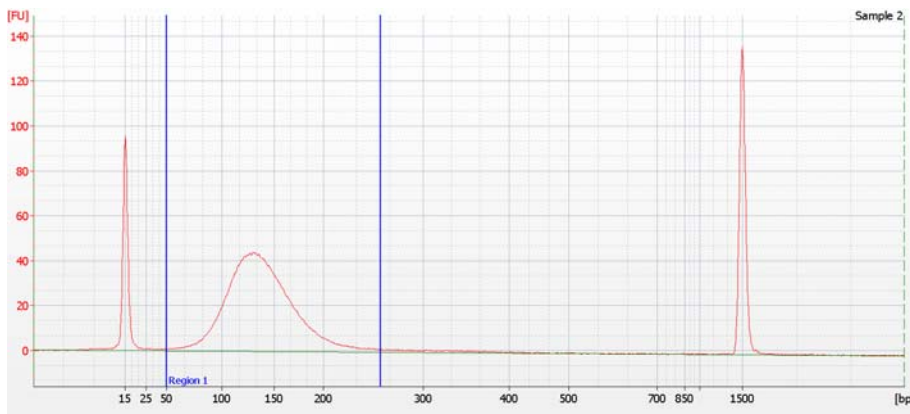

Figure 2 Analysis of sheared DNA using a DNA 1000 Bioanalyzer assay.
- 6 Check that the electropherogram shows a distribution between 50–250 bp. A sample electropherogram is shown in Figure 2.